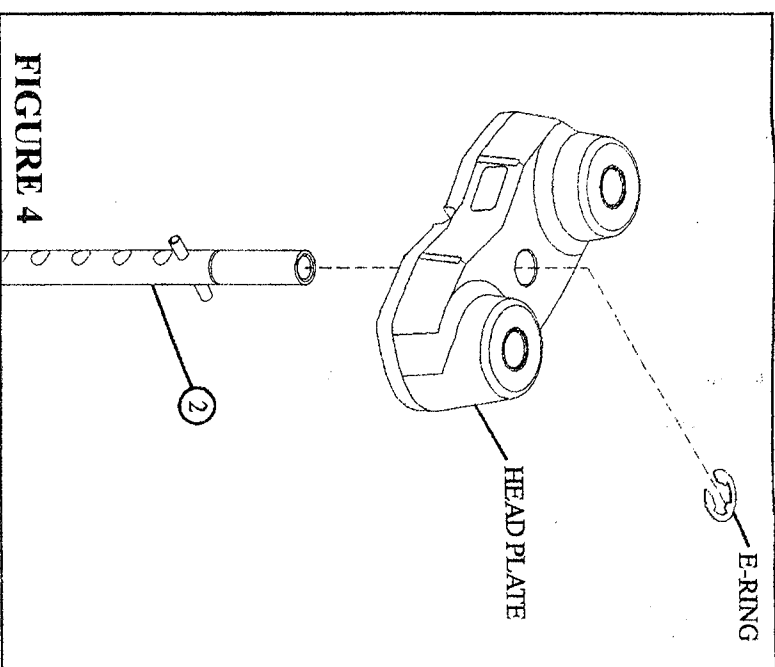

FIGURE 4
- Slide the new 20 HOLE WEIGHT STACK SHAFT (2) thru the hole in the HEAD PLATE and lock in place using the previously removed E-RING as shown in FIGURE 4.